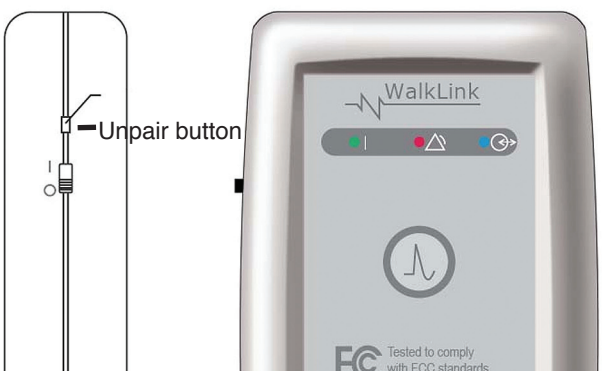

Figure 21: WalkLink unpair button
- Turn ON the WalkLink: Green flashing light on the face of the WalkLink indicates the unit is ON. (see Figure 21)
- Reset the WalkLink: Using the tip of a pen or pencil, press and hold the unpair button (see Figure 21) for 3 to 4 seconds. Turn the WalkLink OFF, wait a few seconds and turn the power back ON.